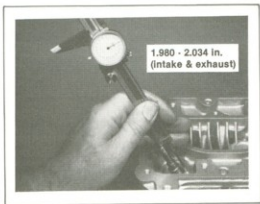

Figure 3-12. Valve Stem Protrusion
- Wipe valve seats and valve faces clean and measure the valve stem protrusion. See Figure 3-12.
- If valve stem protrusion is within the range given in Figure 3-12, the valves and seats are ready for lapping.